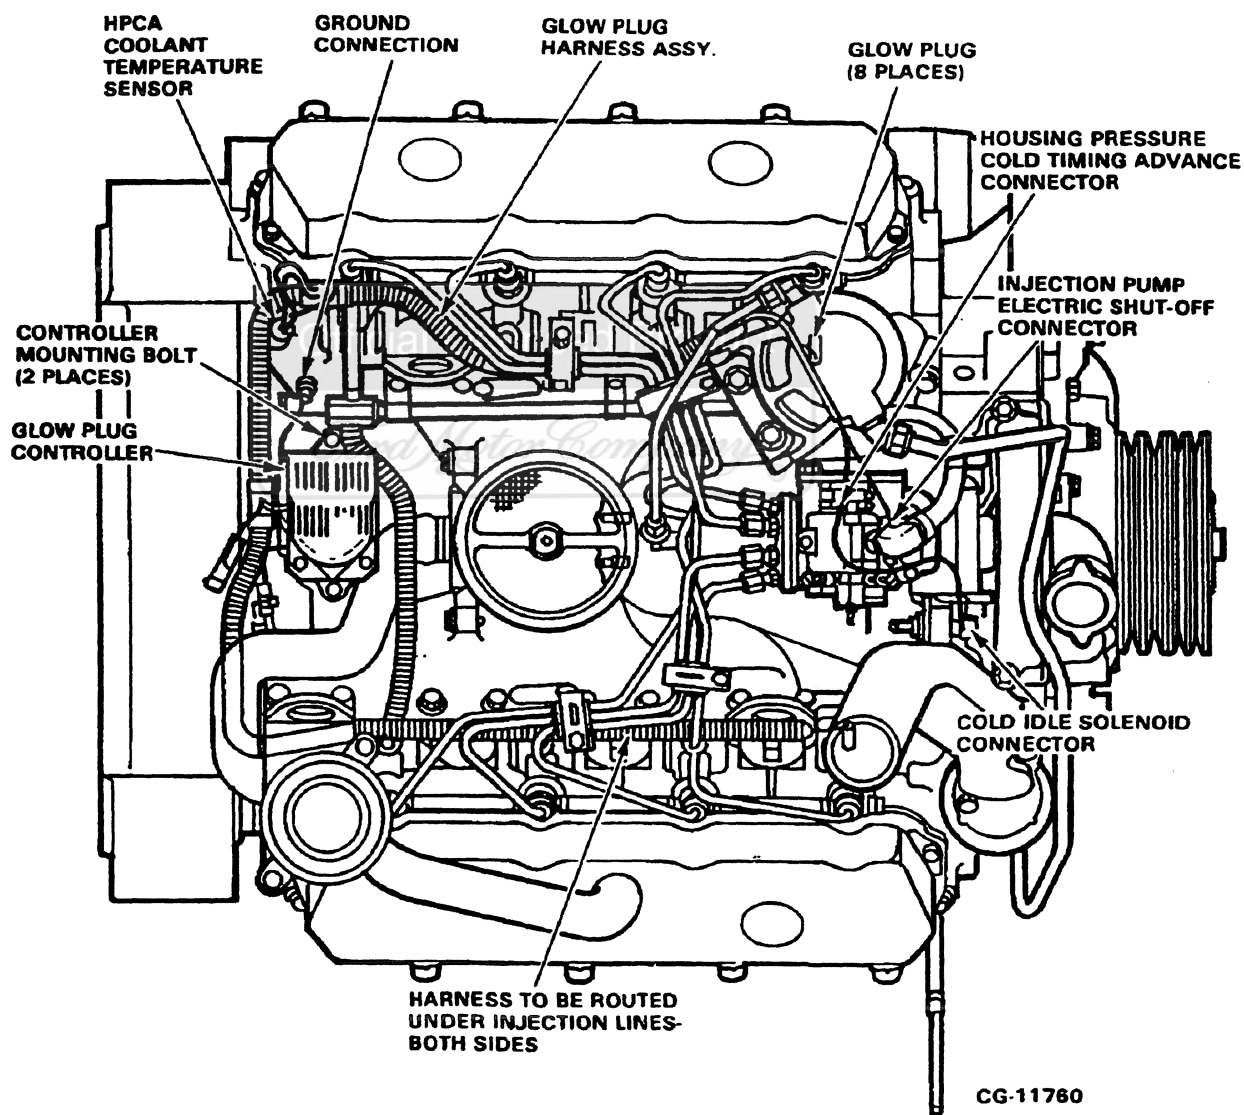

Figure 9.54A. Glow Plug Harness Routing and Connector Locations
2. Disconnect the following harness connectors: (Refer to **Figure 9.54A** or **9.54B**)
#### **Glow Plug Harness and Controller (Refer to Figure 9.54A & 9.54B)**
1. Route harness as shown in Figure 9.54A or 9.54B
4. Reconnect the following connectors: (Refer to Figure 9.54A or 9.54B .)